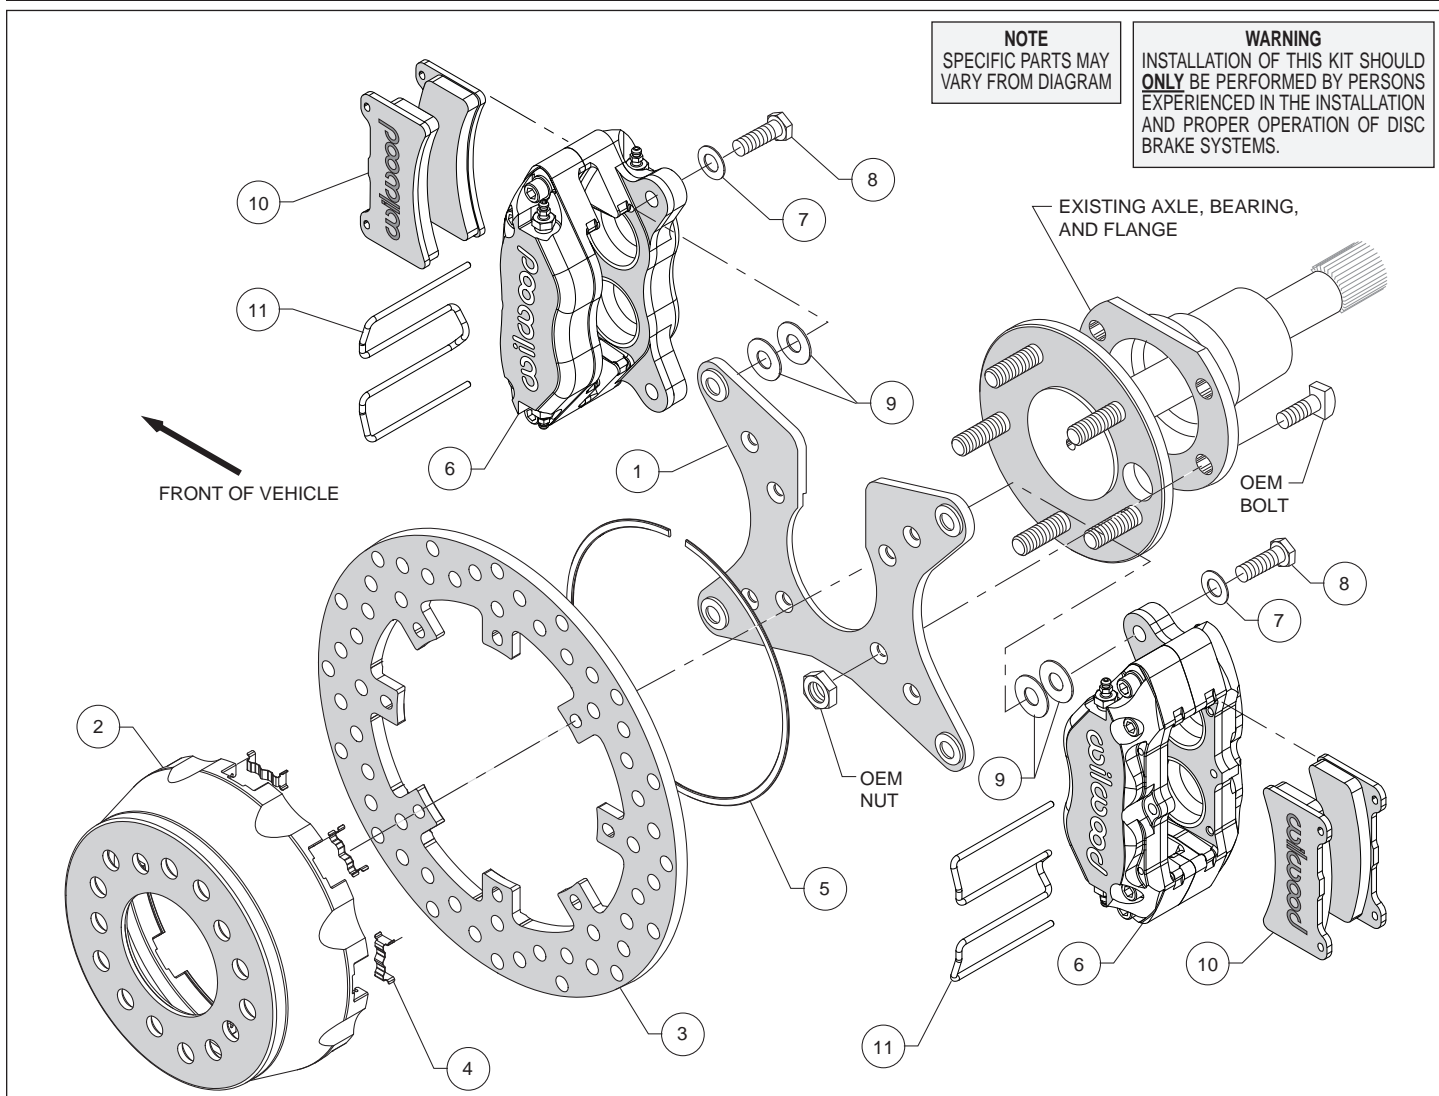

Figure 1. Typical Installation Configuration
Assembly Instructions (numbers in parenthesis refer to the parts list and Figure 1 on the preceding pages): **CAUTION:** All mounting bolts must fully engage clinch nuts. Be sure to check that all bolts are either flush or protruding through flanged side of clinch nut after shimming, Figure 5.
- Install the caliper mounting bracket (1), with the slot for the axle pointing upward, to the housing flange using the OEM bolts and nuts, as shown in Figure 1 and Photo 1. Ensure that the caliper mounting ears on the bracket are oriented fore and aft on the car, with the heads of the clinch nuts facing outboard, Photo 1. Apply red *Loctite*[®] 271 to the OEM bolt threads and torque to OEM specifications.
- Insert the dynamic mount wear plates (4) into the slots in the hat (2) making sure the tabs snap in place, Photo 2. Orient the rotor (3) as shown in Figure 1 and Photo 3, with the flush mount tab side facing the hat. Attach the rotor to the hat using snap ring (5) by pushing down on the rotor and installing the ring into the groove in the hat, as shown in Photo 4. Ensure that the ring is fully engaged in the groove.
- Align the correct hole pattern in the hat (2) with the axle stud pattern and slide the hat/rotor assembly onto the axle hub. **NOTE:** The hat must fit flush against the axle flange or excessive rotor run out may result. Install three lug nuts (finger tight) to keep the hat/rotor in place while continuing with the installation. **NOTE:** Some OEM and aftermarket axles come with stud sizes larger than 0.50" diameter. Verify stud size, and if necessary, have a qualified machine shop drill the hats to the correct size.
- **NOTE:** Please reference the caution statement at the beginning of the assembly instructions. Mount one caliper (6) onto the mounting bracket (1) using bolts (8) and washers (7), as shown in Figure 1. Initially place two .035" thick shims (9) on each bolt between the caliper and the bracket, Photo 5. Temporarily tighten the mounting bolts and view the rotor (3) through the top opening of caliper. The rotor should be centered in the caliper, Photo 6. If not, adjust the caliper by adding or subtracting shims between the bracket and the caliper. Always use the same amount of shims on each of the two mounting bolts. **NOTE:** The end of each bolt must be flush with or slightly protruding from the head of the clinch nut. If necessary, place spare shims between washer and caliper mounting ear to achieve the proper clinch nut engagement, as shown in Figure 5. Once the caliper alignment